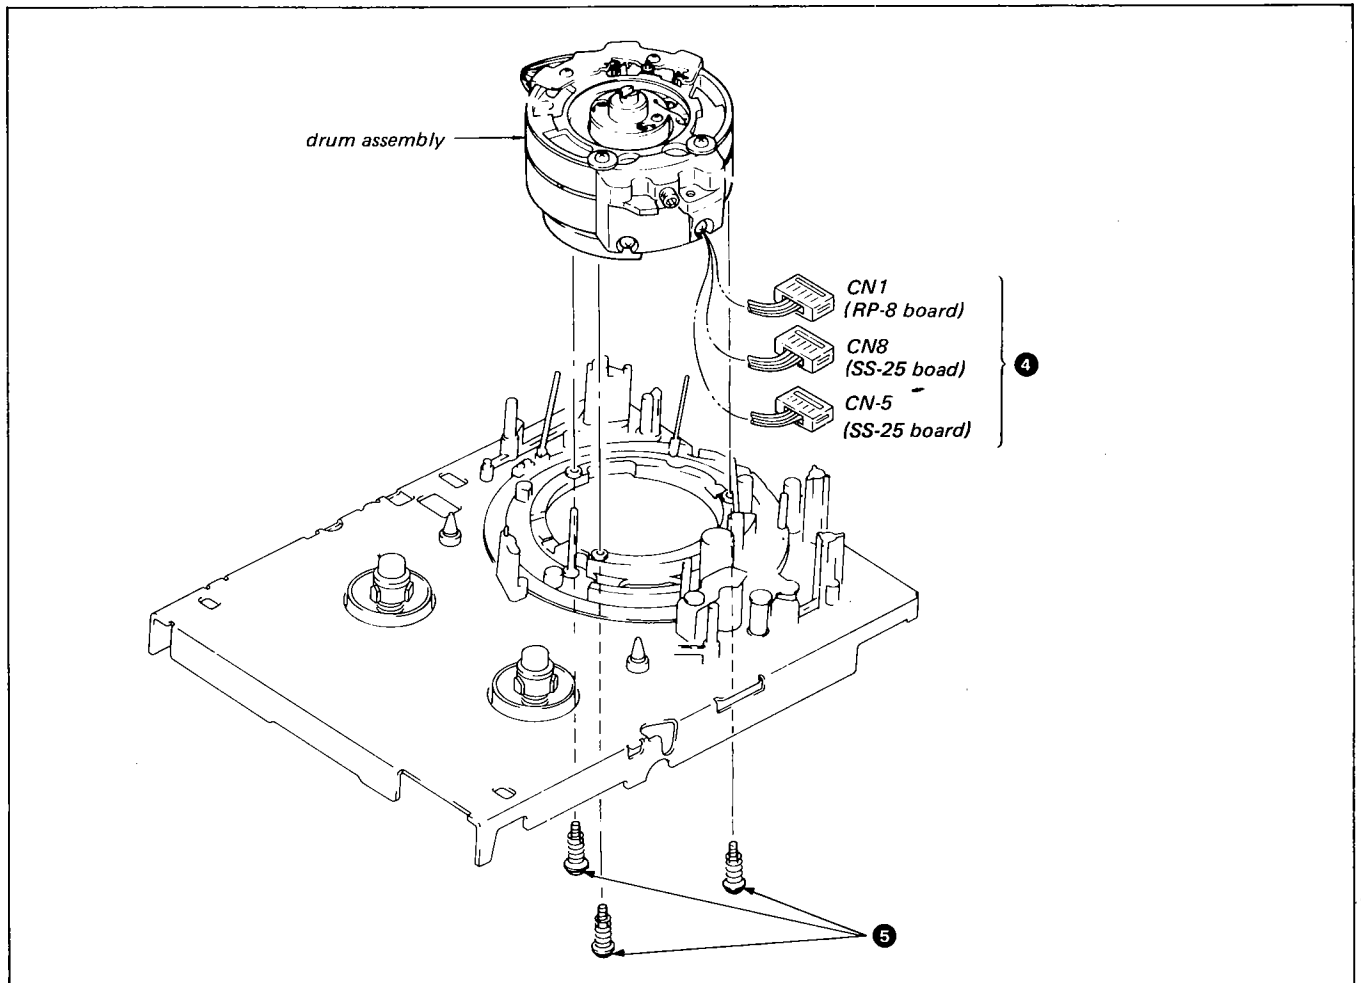

Fig. 3-6. Removal of the drum assembly
- 4 Remove the 3 connectors from the rear of the chassis as shown in Fig. 3-6.